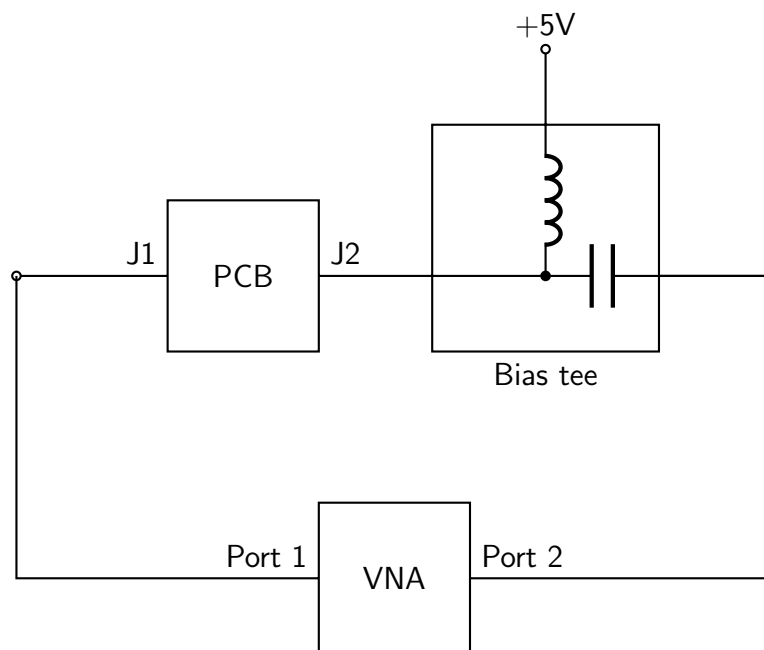

Figure 11: Usage of bias tee to power RF front-end for VNA characterization
3. To power the RF board, you will need a bias tee. Use the same one you used as the DC block for antenna testing. Connect it as shown in Figure 11. You will need to configure and connect a +5V power supply to the bias tee. Set a current limit to around 200 mA in case something has gone wrong during the soldering.